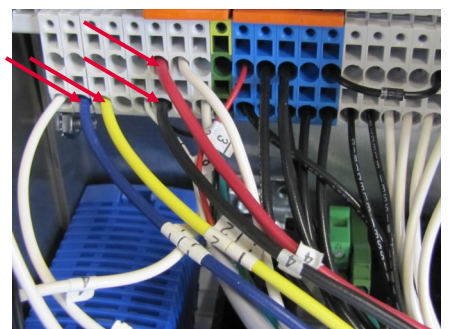

Figure 20
20. Connect the wires into the high voltage DIN rail as shown in Figure 20 — Blue goes to #1, yellow to #2, red and black to #4. Insert a small flat head screwdriver into the square hole immediately adjacent to the wire hole. Press straight down with the screwdriver and the wire pinch will be opened to receive the wire. Insert the wire and remove the screwdriver. Give the wire a slight tug to make sure it is secure.